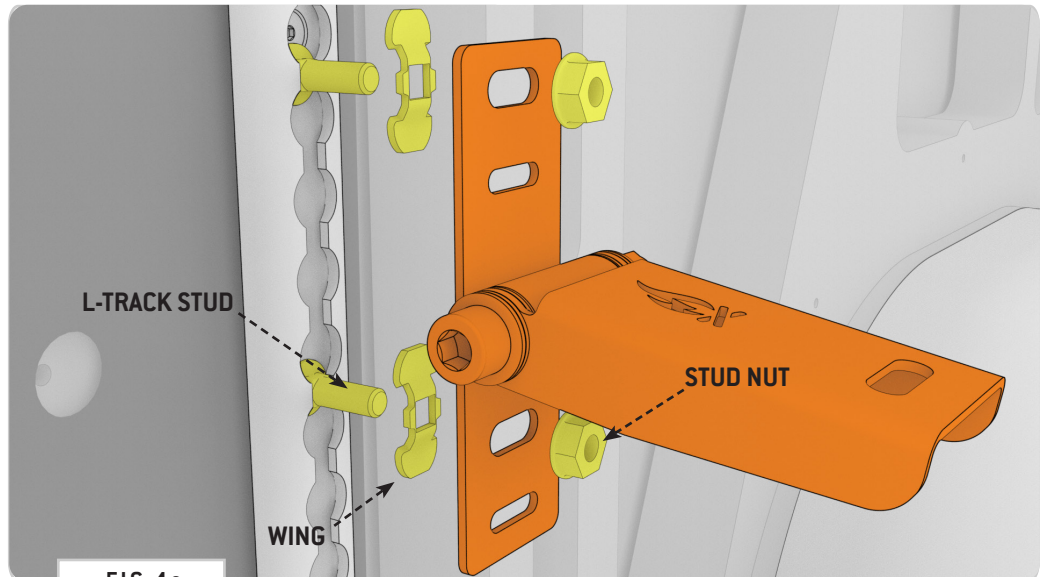

FIG 4a
1.2a Attach Hinge Assemblies to L-Track: Attach the Hinge Assemblies to the desired height along your L-Track using the included L-Track Studs (FIG 4a).